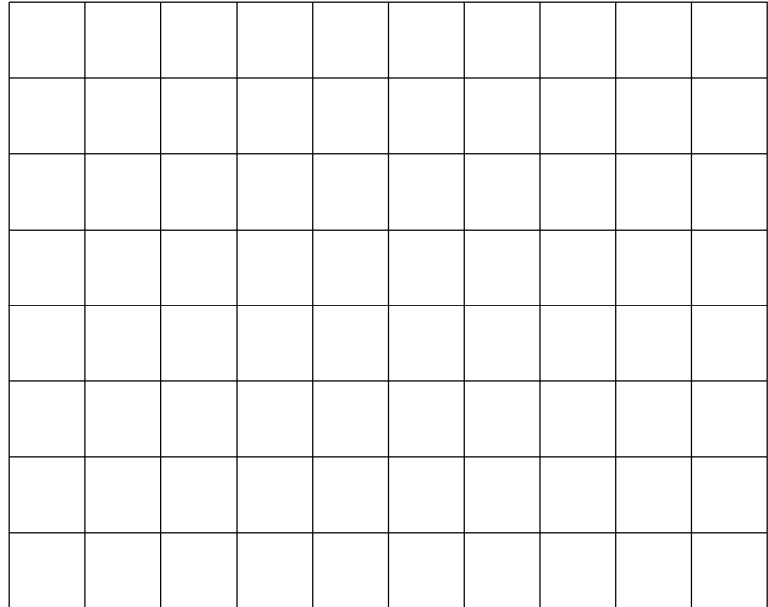

Fig. 15.2.6: Determining the phase angle
- Measure the phase angle  $\varphi$  on the oscilloscope. Display the voltages  $U$  and  $U_R$ . Draw the voltage waveform in the chart (Fig. 15.2.6).